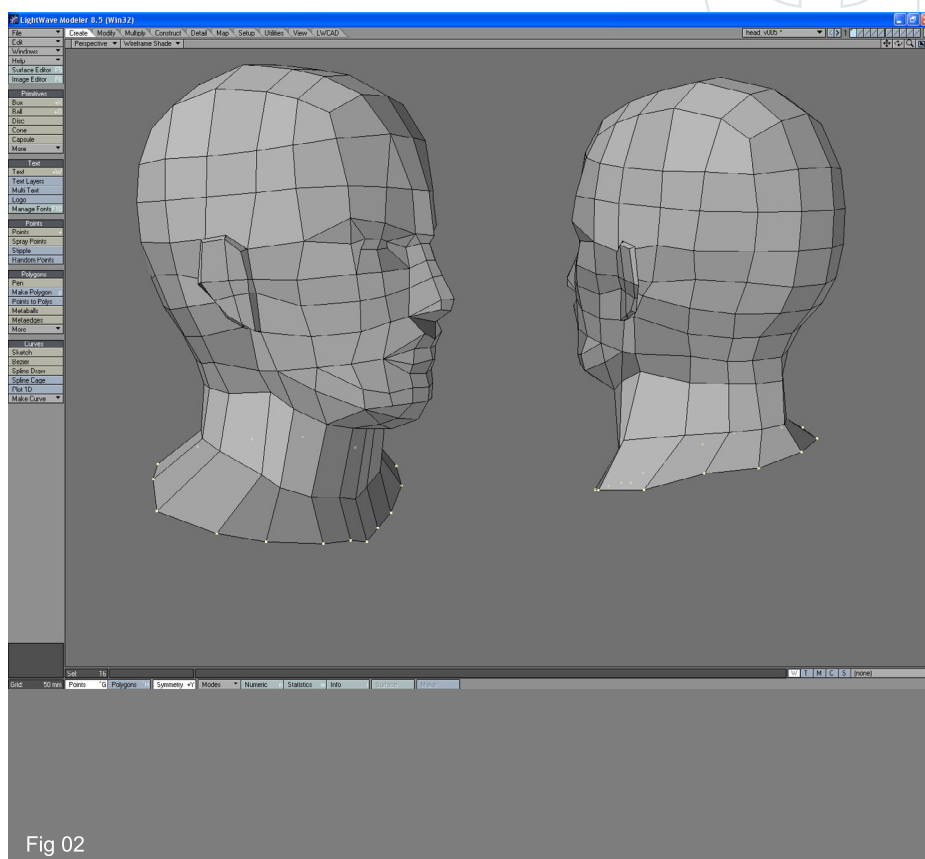

Fig 02
2. Repeat the same step as described above only this time move the side points more outward to form the top of the shoulders (Fig02).